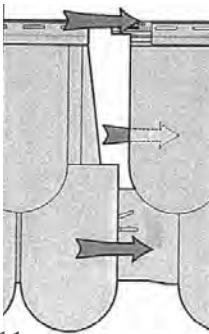

Fig.11
- c. Side the next panel into position. The top half of the panel, except the nail hem, slides under, and the bottom half slides over the previous panel. (See Figure 11)